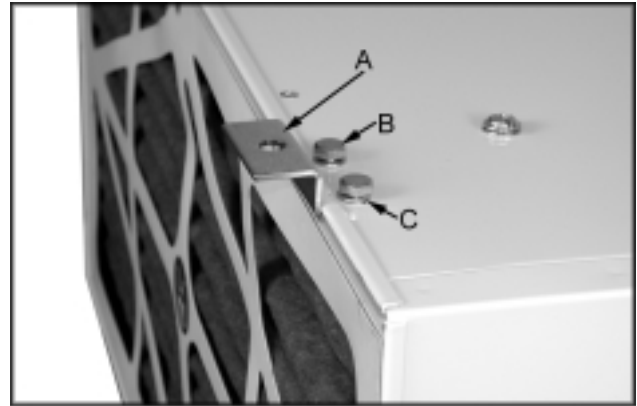

Fig. 2
3. Attach the bracket (A, Fig. 2) with two hex cap screws (B, Fig. 2) and two lock washers (C, Fig. 2).